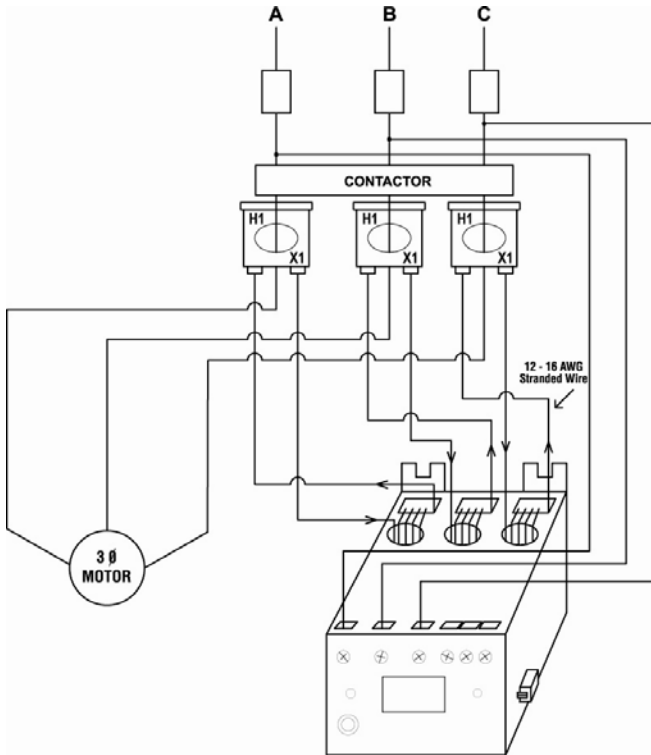

Figure 3: Typical Wiring Using External CTs¹
c) For amperages greater than 90 amps, external CTs (current transformers) are required. Littelfuse recommends using CTs with terminal connections for easier installation. All CT secondaries must make five passes through the round holes on the MotorSaver® Plus. See Figure 3 for a typical wiring diagram using external CTs.